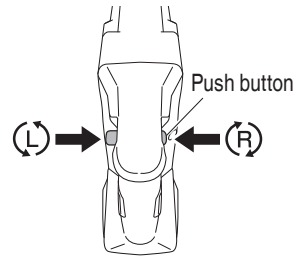

Fig. 11
6. Confirm the direction of bit rotation (Fig. 11)
The bit rotates clockwise (viewed from the rear side) by pushing the R-side of the push button. (Fig. 11)